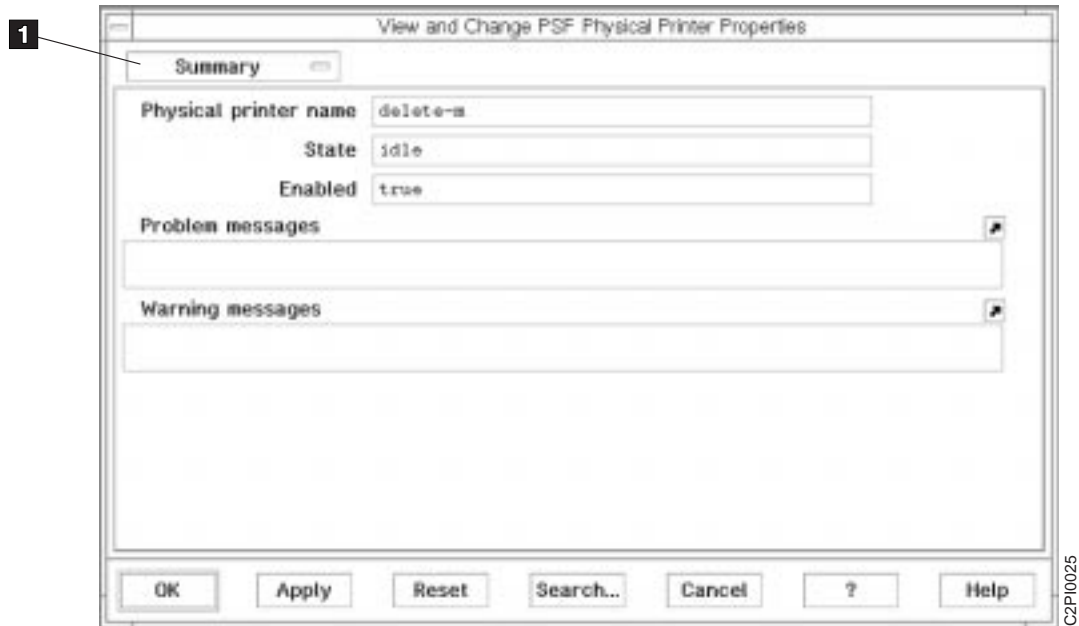

Figure 16. View and Change PSF Physical Printer Properties Window
6. In **Actual Destinations 5**, double-click the InfoPrint 60 finisher icon you created. You see the Note Book window (Figure 16 on page 16).